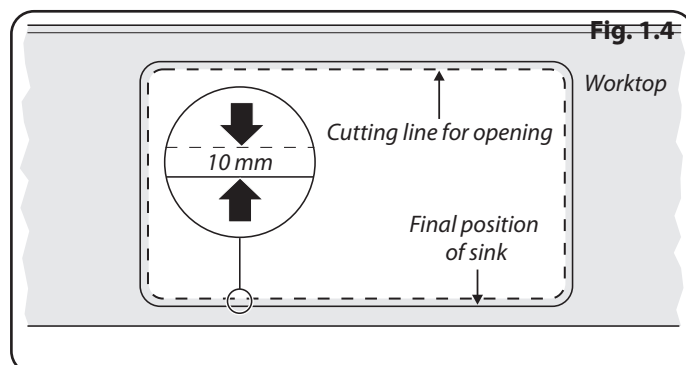

Fig. 1.4
2. Draw another line 10 mm inside the sink top outline – this is the cutting line for the opening (**Fig. 1.4**).